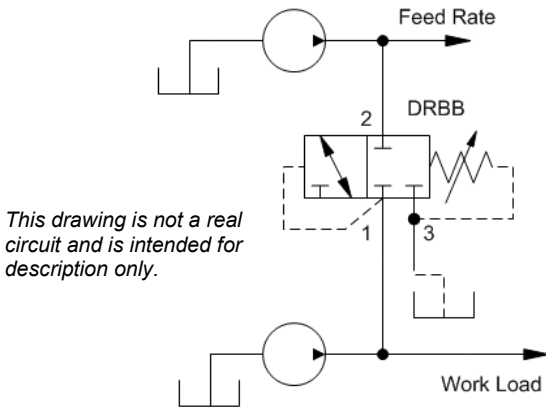

Figure 4.
- Normally closed 2-way, three port cartridges are primarily used for unloading functions at some predetermined remote pressure signal. (See Figures 4, 5 and 6.)
Adding a ventable relief valve to the circuit shown in Figure 4, allows for higher flow plus system relief protection.